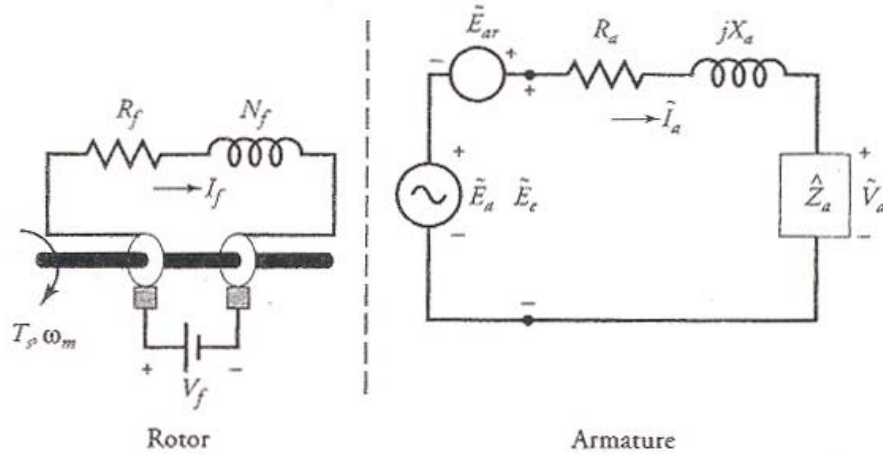

Figure 3: A per-phase equivalent circuit showing the induced emf in the armature winding due to the armature reaction.
- (d) The flux Φ_{ar} , in turn, induces an emf \tilde{E}_{ar} in the armature winding. \tilde{E}_{ar} is called the **armature reaction** emf. The armature reaction emf \tilde{E}_{ar} lags the flux Φ_{ar} by 90° . Hence the effective generated voltage per-phase \tilde{E}_e is the algebraic sum of the no-load voltage \tilde{E}_a and the armature reaction emf \tilde{E}_{ar} . That is, $\tilde{E}_e = \tilde{E}_a + \tilde{E}_{ar}$. An equivalent circuit showing the armature reaction emf is given in Figure 3.